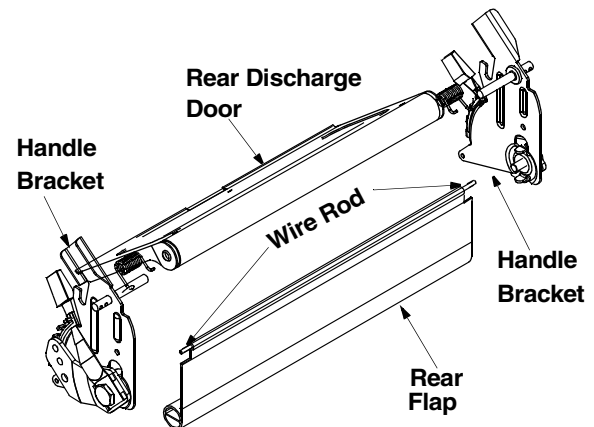

Figure 15
- To remove rear flap, cut off the flat end of the wire rod which secures it to the deck. See Figure 15.